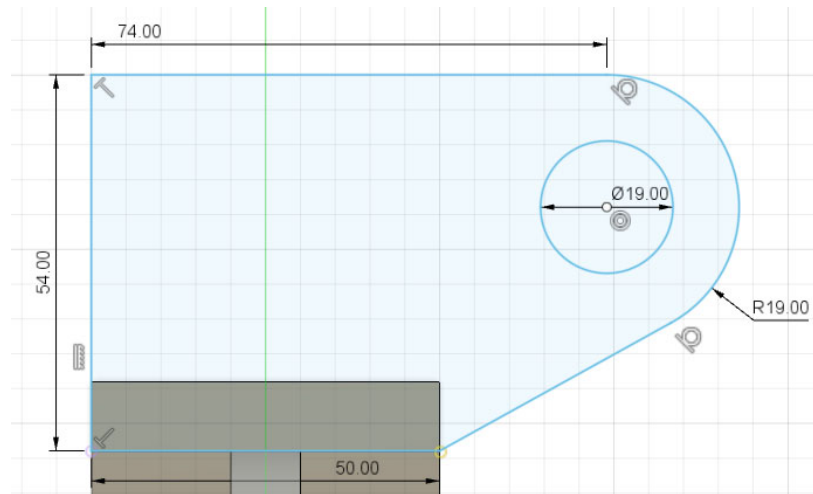

Fig. 10: Dimension of the top
14. Repeat instruction in Step 3 and 4 with the dimension of the closed loop and circle is given in Fig. 10.